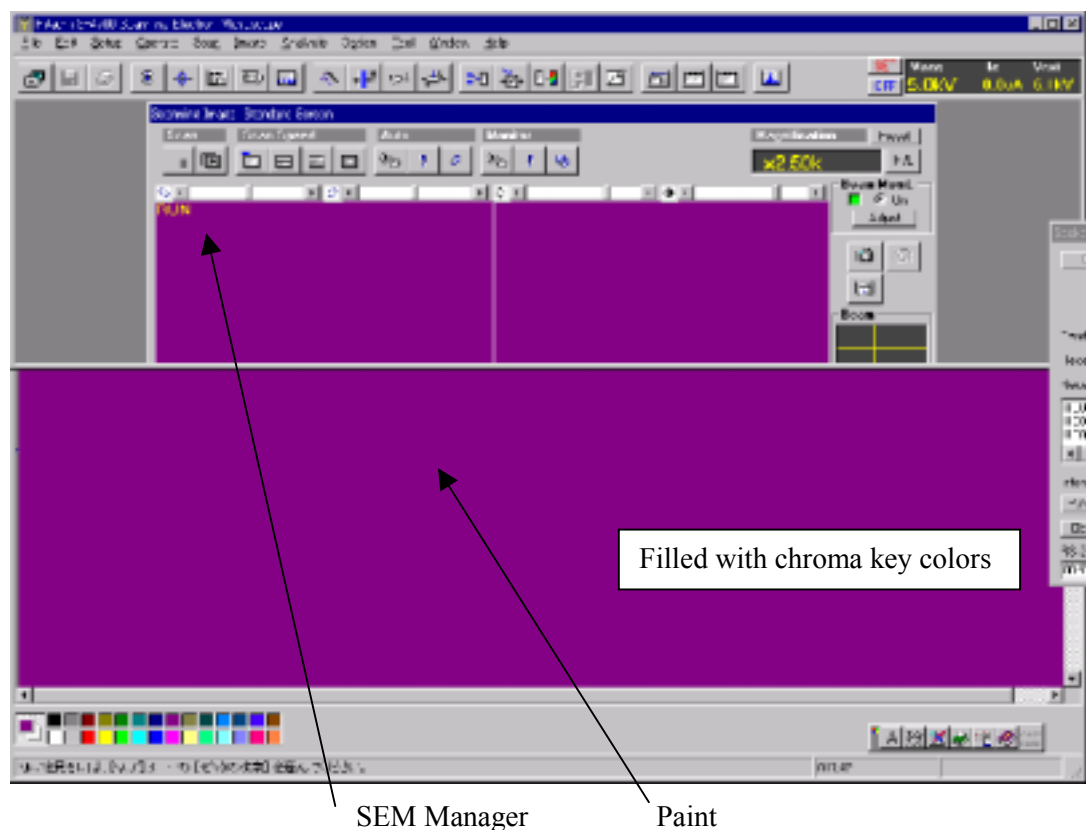

Figure 5-13: Chroma Key Adjustment
1. Use the Data Manager to open a previously prepared 640x480 size BMP file, and transfer it back to the image memory. For adjustment purposes, the desirable BMP file is one in which the outermost frame has a box cursor. On the standard mode screen, set a PLL division ratio for the superimposer adjustment window so that the width of the frame for the area in which the SEM image is displayed will be the closest to the width of the frame for the area to be displayed by the superimposer. For ease of adjustment, use the Windows application Paint program to create a canvas size sufficiently larger than 640x480 and filled with R=128, G=0, B=128 colors. Display this canvas by superimposing it on the SEM Manager (**Figures 5-13, 5-14**).